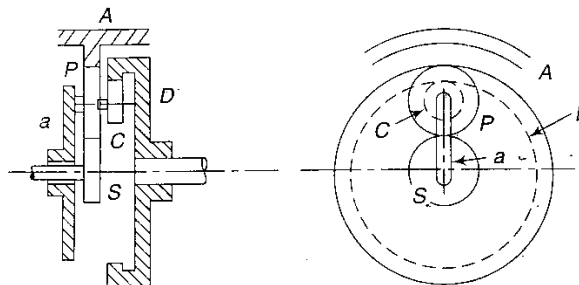

Fig. 5a
- 5 a) In a reduction gear shown here in Fig. 5a, the input S has 24 teeth, P and C constitute a compound planet having 30 and 18 teeth respectively. If all the gears are of the same pitch, find the ratio of the reduction gear. Assume A to be fixed. 12